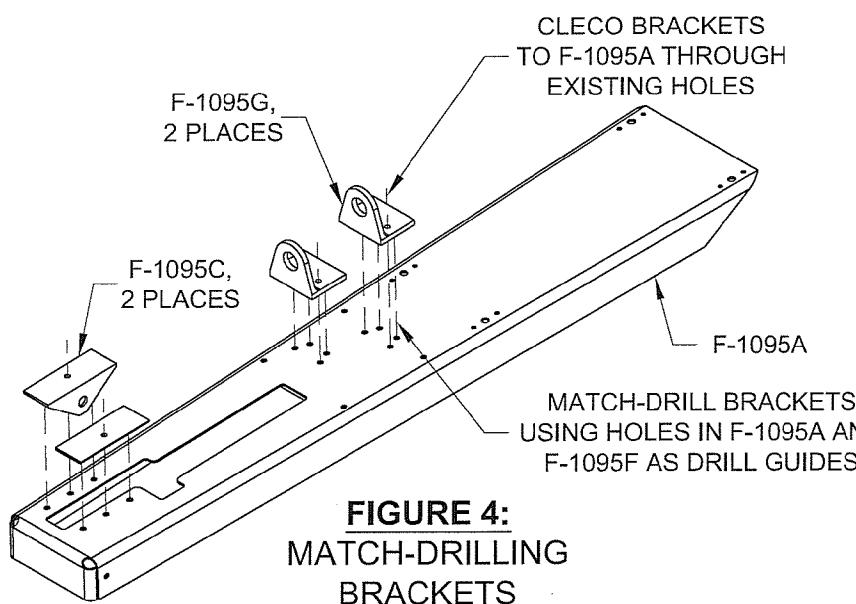

**FIGURE 3:**
Step 3: Fit the F-1095F Trim Servo Spacer to the underside of F-1095A Trim Mount Bracket as shown in Figure 3.
Step 4: Cleco the F-1095F Trim Servo Spacer to the F-1095A Trim Mount Bracket as shown in Figure 3. Cleco through the four corner holes in the trim servo spacer.
Step 5: Cleco the F-1095F Trim Servo Spacer to the F-1095A Trim Mount Bracket as shown in Figure 3. Cleco through F-1095G Trim Cable Anchor Bracket attach holes leaving open the four corner holes in the trim servo spacer.